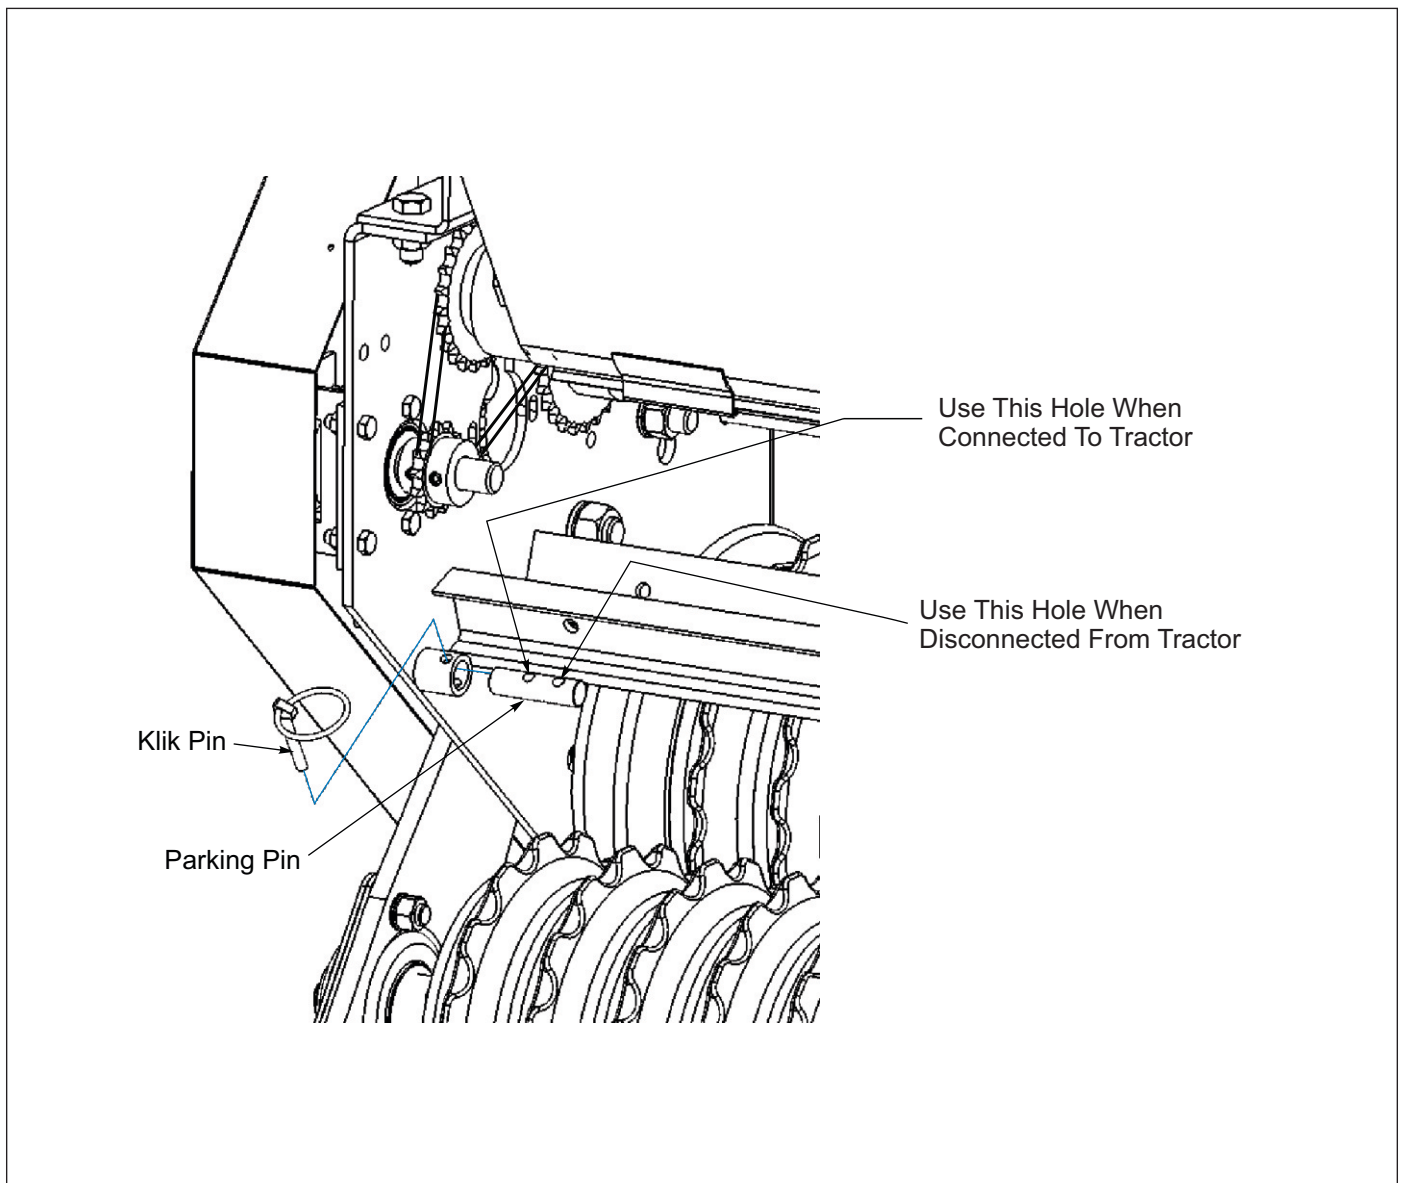

Figure 3-1: Parking Pin
2. Remove the Klik Pin, pull the Parking Pin into outer position, replace the Klik Pin. **See Figure 3-1.**
1. Remove the Klik Pin, push in the Parking Pin, replace the Klik Pin. **See Figure 3-1.**